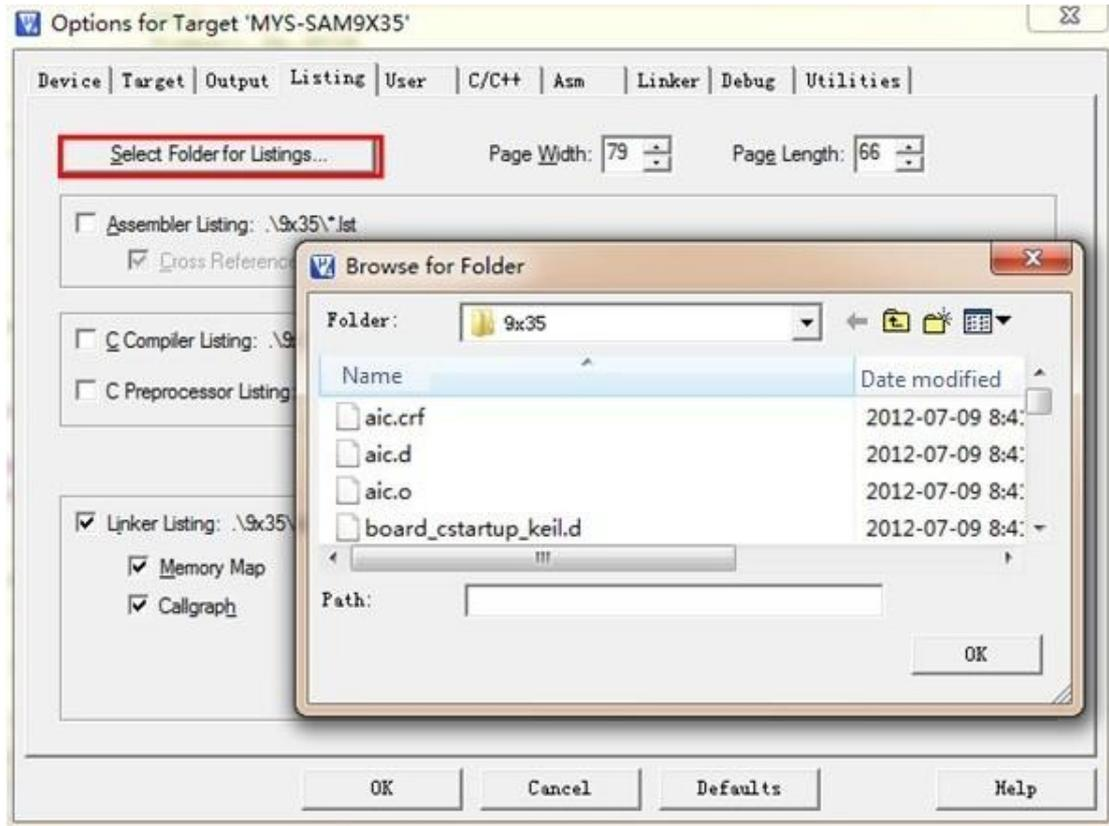

Figure 3-4
(4) The generated intermediate file folder can be selected in the listing tab. Refer to figure 3-4: